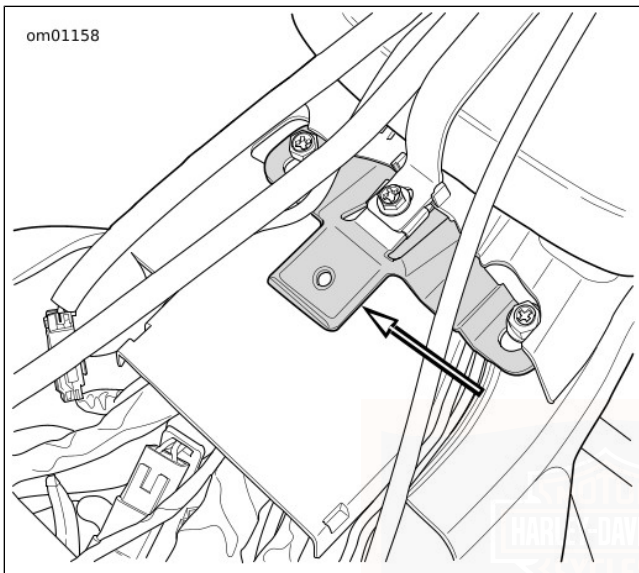
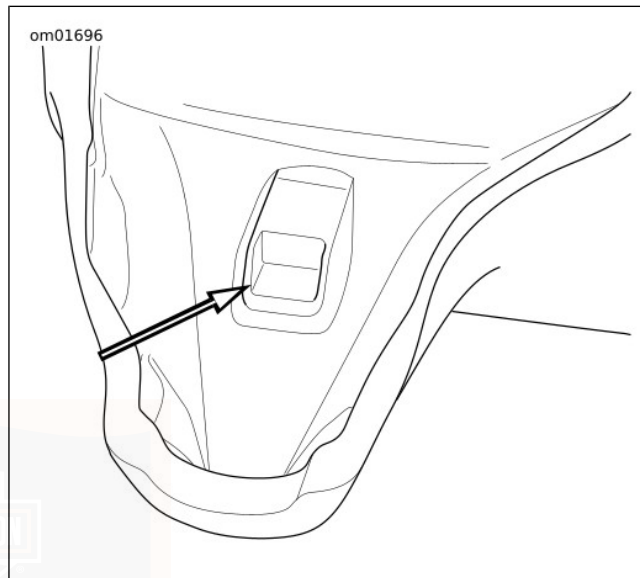

Figure 103. Seat Tongue (typical)
Figure 104. Seat Mounting Slot
6. See Figure 103 and Figure 104. Raise rear of seat. Pull seat rearward to disengage the tongue from the slot in the seat.
1. See Figure 103 and Figure 104. Align seat slot with tongue behind the fuel tank. Push seat forward to engage seat.